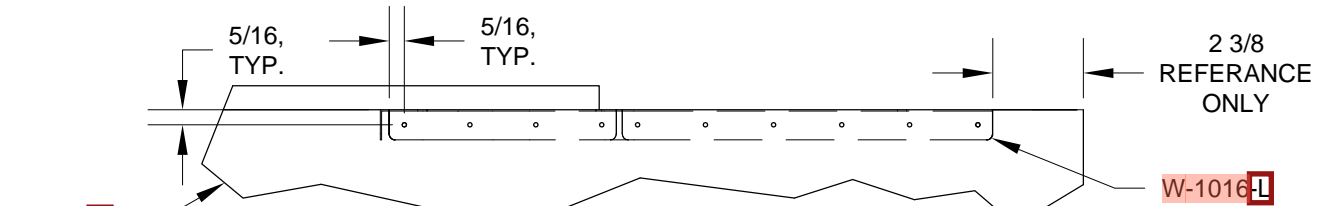

FIGURE 2: LAYING OUT THE TIP RIB RIVET PATTERN
Step 5: Attach the W-1015-L Wing Tip to the wing assembly and insert the W-1016-L Wing Tip Rib into the aft edge of the wing tip. Properly position the wing tip rib to fit snug into the wing tip without distorting the wing tip. Flush the inboard face of the web with the inboard edges of the wing tip (see Figure 2). With the wing tip rib positioned, mark the ends of the flanges onto the bottom and top sides of the wing tip. Using an edge distance of 5/16 layout a rivet pattern on the bottom and top of the wing tip using an approximate 1 1/2 inch spacing between rivets. See Figure 2.